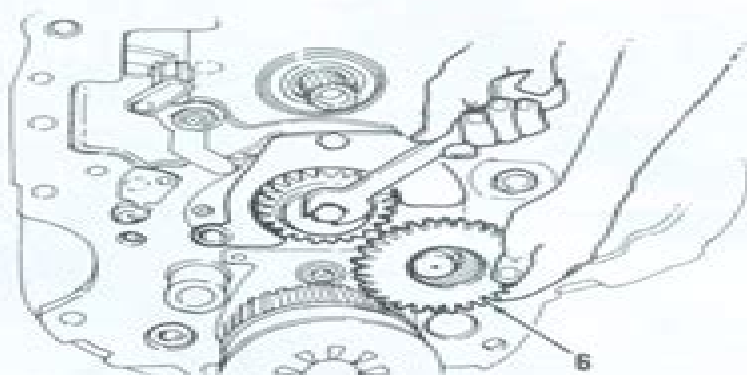

Fig. 16—Rotate drive pinion shaft until idler gear (6—Fig. 15) can be removed. Idler gear can be removed in only one position.
and bearing cone (3). Turn cap screw (10), drive gear (13) and pinion shaft (27) until idler gear (6) can be removed. See Fig. 16. Gear teeth will align in only one position for gear removal. Remove idler gear (6—Fig. 15) and bearing cone (9). Remove bearing cups (4 and 8) and snap rings (5 and 7) from idler gear. Remove cap screw (10), spacer (11), shims (12) and drive gear (13). Remove park brake pin (33). Remove park brake housing cap screws (15 and 16) and install two long alignment studs (CAS-1995), then remove cap screw (14). Remove nut (17), washer (18) and cap screws (24). Carefully slide the clutch assembly and park brake assembly forward until clutch assembly can be removed. Do not lose shims (20). If dowel (21) holds brake housing to clutch assembly (25), use extreme care when removing the units as an assembly. Lay the assembly on a bench and separate. Remove park brake components (28 through 32).